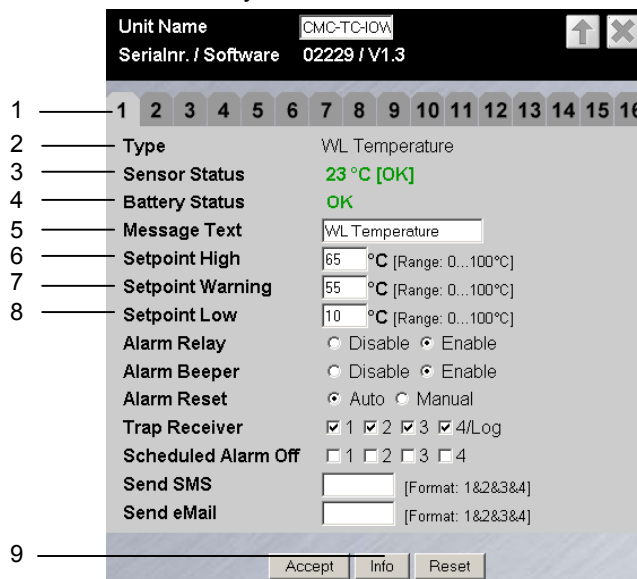

Fig. 7 Configuring the sensor – overview
The information menu is reached using the Info button, see Fig. 7, item 9